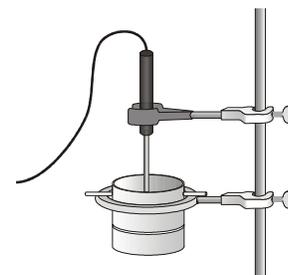

Figure 1. Apparatus.
7. Set up the apparatus as demonstrated by your teacher. (See Figure 1.)